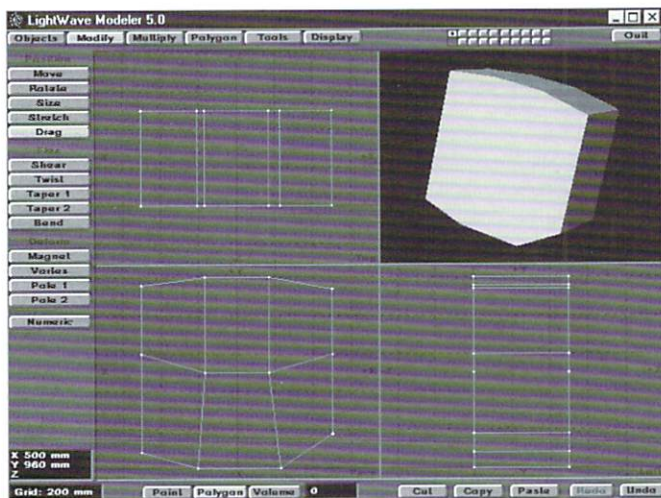

Figure 1: The basic starting block for the hand.
- Slightly round the edges by dragging the upper two corners down and the lower two corners up (Figure 1).